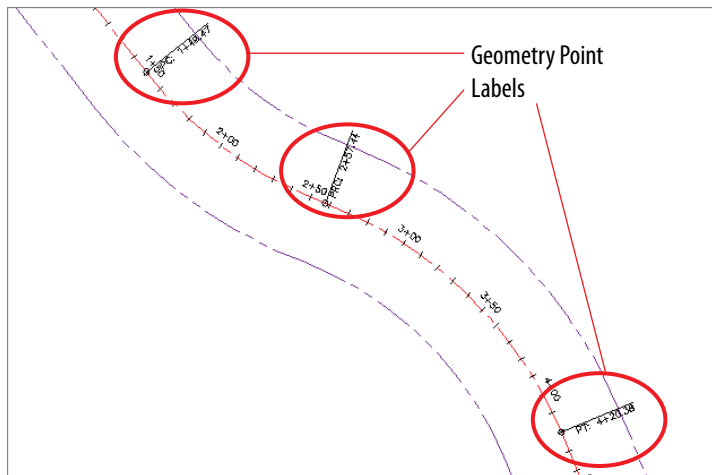

FIGURE 6.3 Geometry point labels displayed on the Jordan Court alignment
9. Press Esc to clear the selection. Examine the alignment labels, and note the labels at the PCs, PTs, and PRCs, as shown in Figure 6.3.